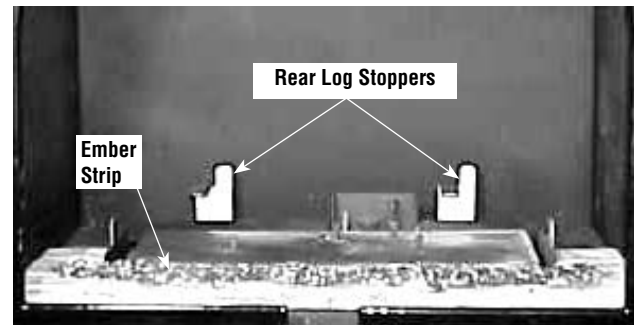

Figure 9
1. Place the ember strip in front of the burner as shown in *Figure 9*. It should be positioned all the way back (toward the sub-floor front flange).
2. Place the largest log onto the rear log stoppers (see *Figure 9*). Ensure that the grooves on the bottom of the log aligns onto the corresponding places on the rear log stoppers. Push the log back so that it is against the back of the rear log stoppers (see *Figure 10*).